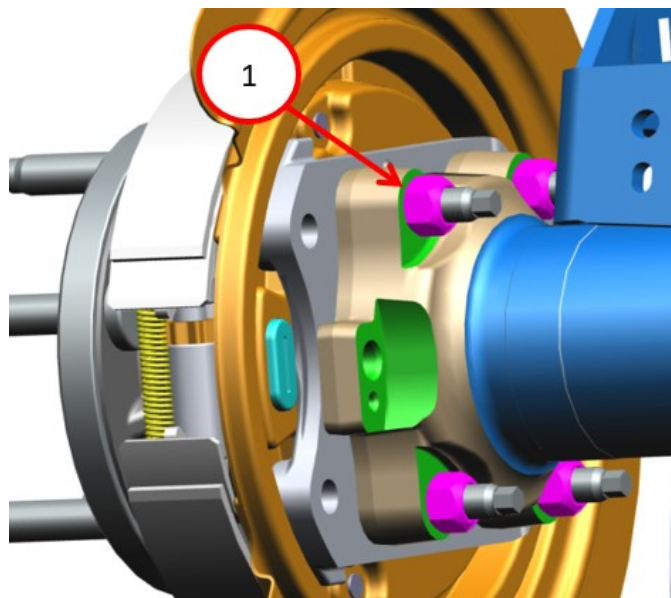

Fig. 1
4. Remove and **DISCARD** the four nuts Fig. 1 from the hub assembly.
13. Install four **NEW** hub nuts Fig. 1 on the hub assembly.